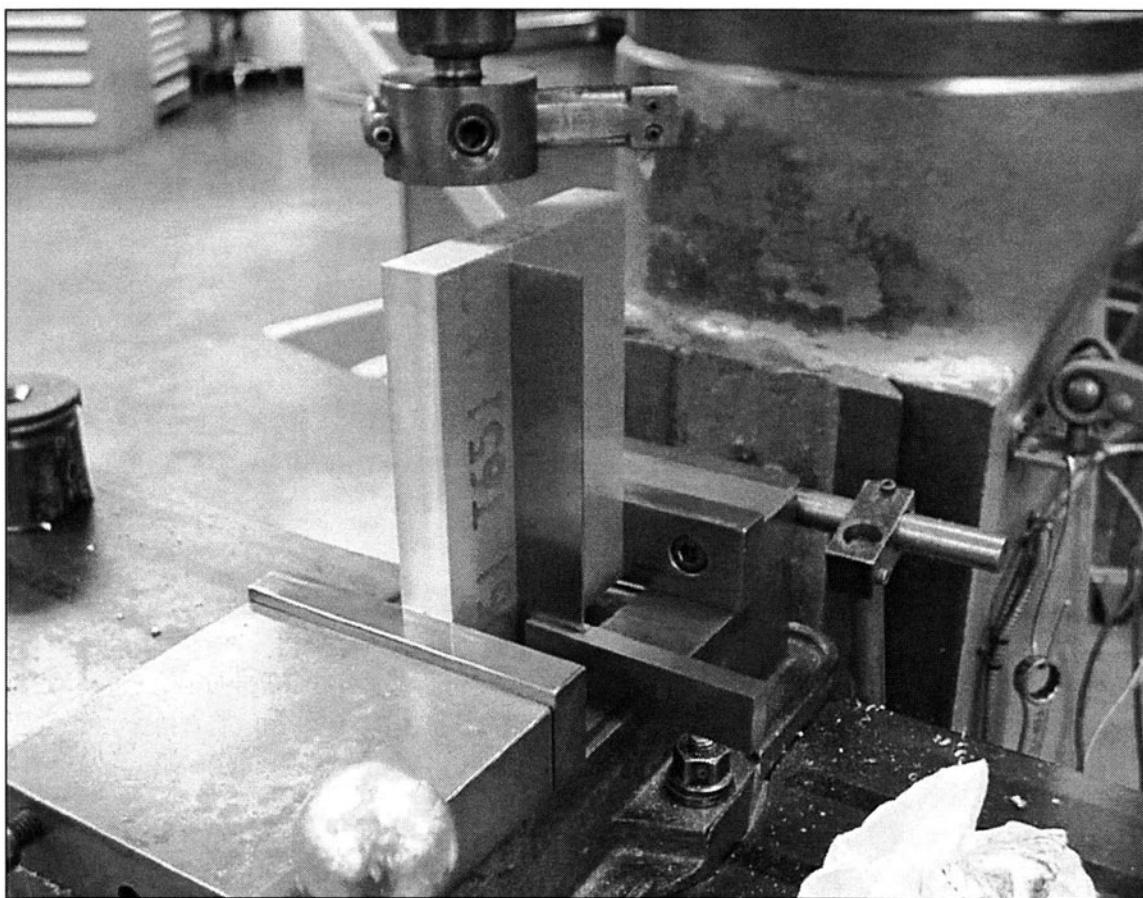

FIGURE 12-4 A machinist square is used to line up this plate for fly cutting the ends square.
6. *Square the ends of plates with a fly cutter instead of side milling. (See Fig. 12-4)*